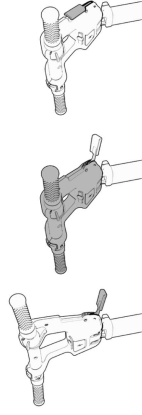

Figure 23 Driving console tilt adjustment
1. Hold the Driving Console in one hand and release the adjusting lever using the other hand (1)
2. Adjust the Driving Console angle so that you can reach and hold it comfortably with a clear view of the display area (2)
3. Tighten the adjustment lever once you're done (3). (see Figure 23).